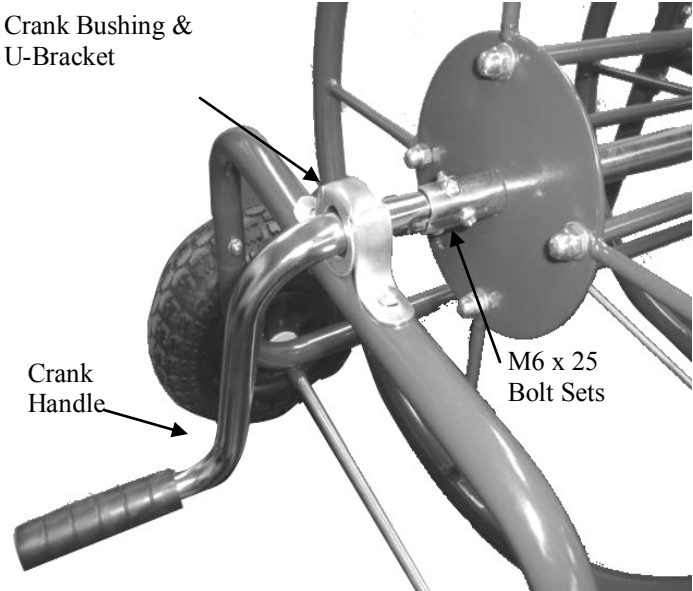

Figure 4
4. Insert Crank Bushing into Crank U-Bracket and attach to the Front Crank Frame Using (2) M6 x 35 Bolt Sets. Insert Crank Handle through the Crank Bushing then slide Hose Reel Assembly onto Crank Handle securing with (2) M6 x 25 Bolt Sets. See Figure 4